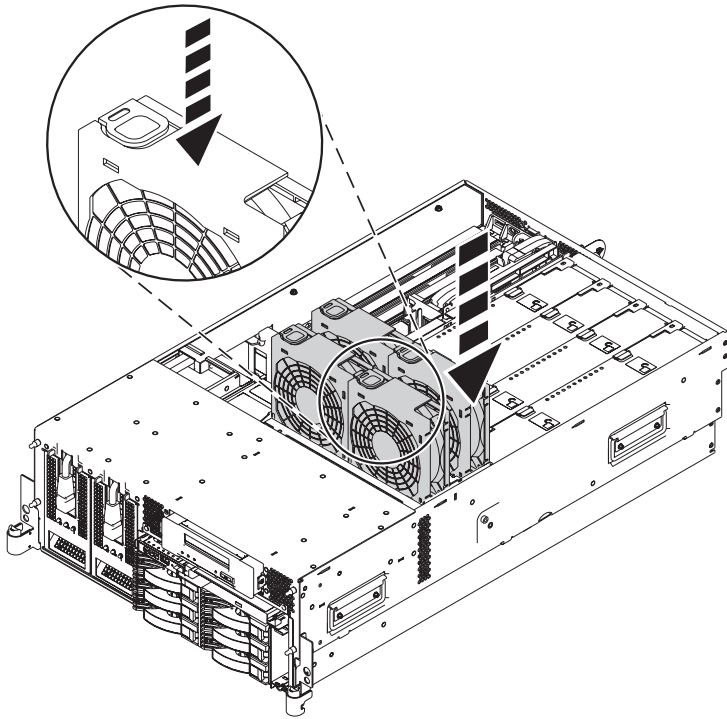

Figure 19. Installing the fans in the 8204-E8A or 9409-M50 fan cage
- 3) To install the fans, insert the fans into their location in the fan cage, and push down on the fan until it locks into place, as shown in Figure 19.